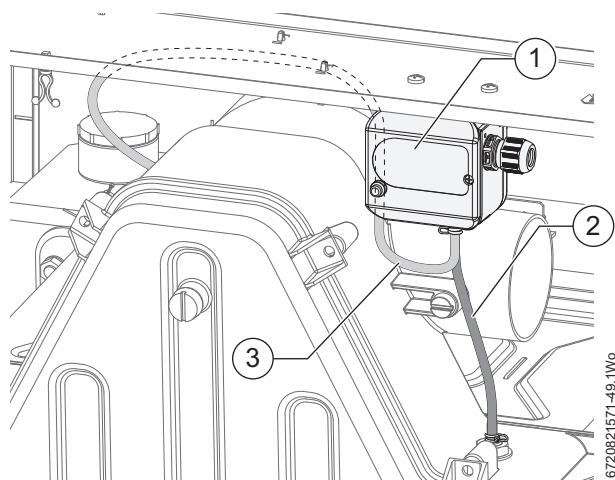

Fig. 63
- ▶ Ensure that the sensing tubes are connected correctly, refer to figure 63.